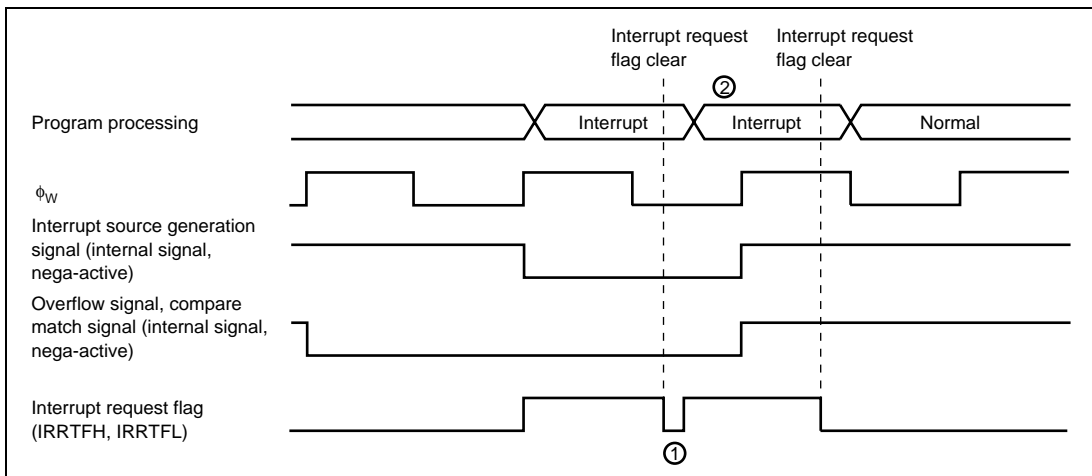

Figure 11.3 Clear Interrupt Request Flag when Interrupt Source Generation Signal is Valid
When $\phi_w/4$ is selected as the internal clock, "Interrupt source generation signal" will be operated with ϕ_w and the signal will be outputted with ϕ_w width. And, "Overflow signal" and "Compare match signal" are controlled with 2 cycles of ϕ_w signals. Those signals are output with 2-cycle width of ϕ_w (figure 11.3)
In active (high-speed, medium-speed) mode, even if you cleared interrupt request flag during the term of validity of "Interrupt source generation signal", same interrupt request flag is set. (1 in figure 11.3) And, the timer overflow flag and compare match flag cannot be cleared during the term of validity of "Overflow signal" and "Compare match signal".
For interrupt request flag is set right after interrupt request is cleared, interrupt process to one time timer FH, timer FL interrupt might be repeated. (2 in figure 11.3) Therefore, to definitely clear interrupt request flag in active (high-speed, medium-speed) mode, clear should be processed after the time that calculated with below (1) formula. And, to definitely clear timer overflow flag and compare match flag, clear should be processed after read timer control status register F (TCSRFB) after the time that calculated with below (1) formula.